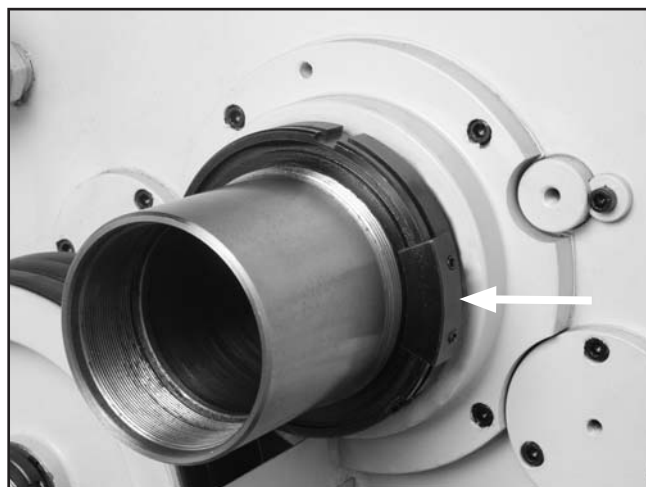

Figure 14. Spindle counterweights.
3. Open the side cover, loosen the counter weight set screws (**Figure 14**), and reposition one or both counterweights to a new position around the circumference of the spanner nut.